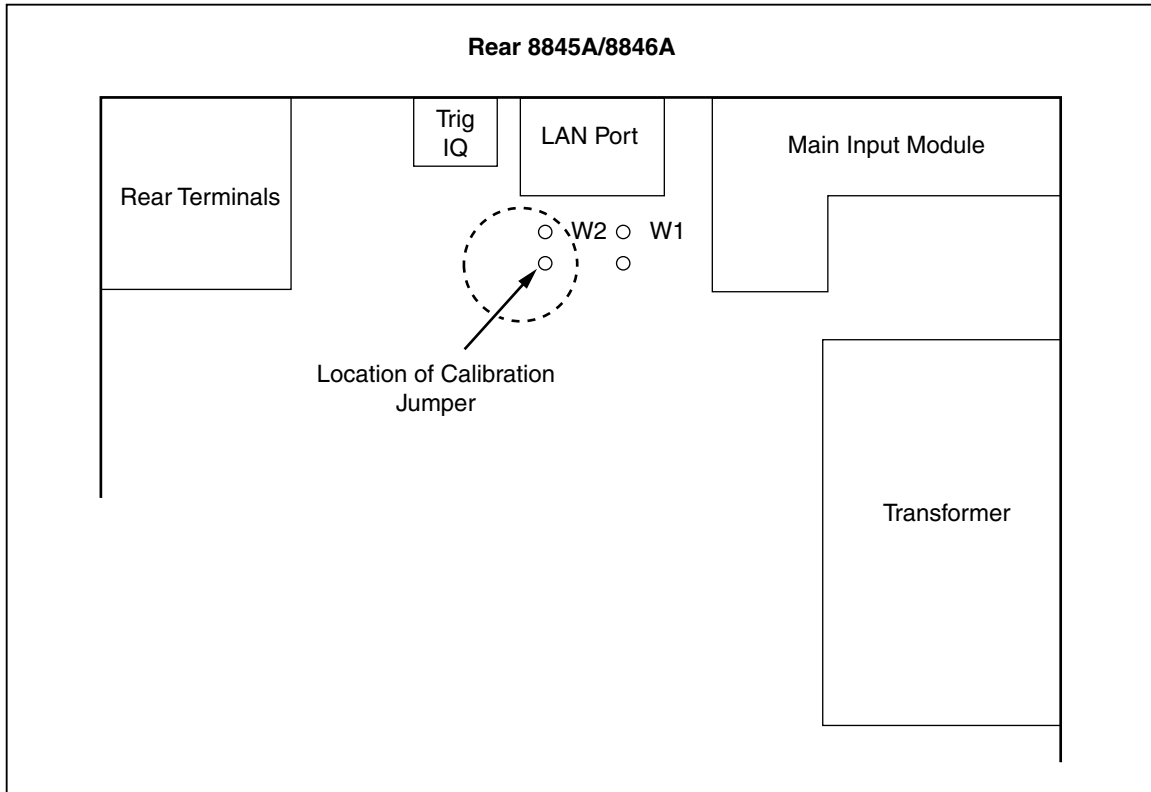

Figure 3-9. Calibration Jumper Location
2. Connect a jumper across W2, as shown in Figure 3-9.